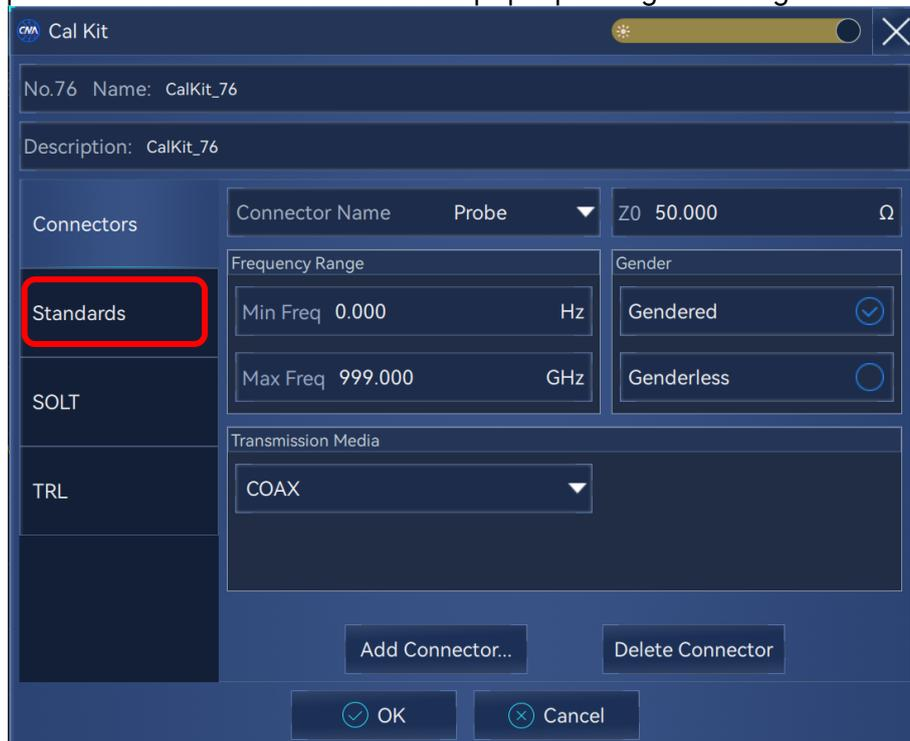
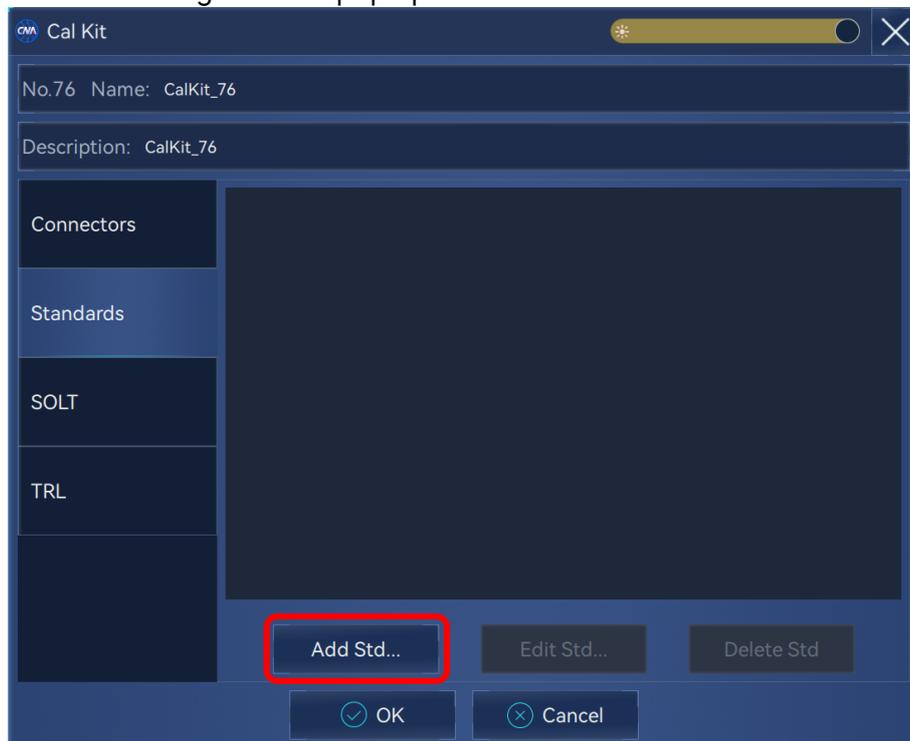

Figure 4 Edit Connector dialog box
Figure 5 “Standards” dialog box
Step 5: In the pop-up dialog box in Figure 4, set the polarity of the connector to: Gendered; The joint medium is COAX; Set the minimum frequency, maximum
Step 6: Select the “Standards” button in the pop-up dialog box in Figure 4, and the dialog box shown in Figure 5 will pop up.
Step 7: Click the “Add Std...” button in the dialog box shown in Figure 4, and the dialog box shown in Figure 6 will pop up.